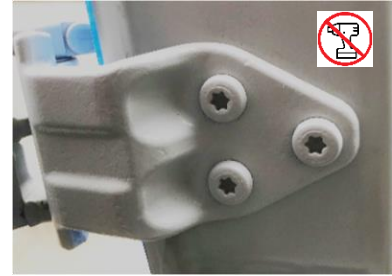

Figure 4: Top Hinge View
14. Remove all three bolts connecting the lower hinge to the door (Figure 4).